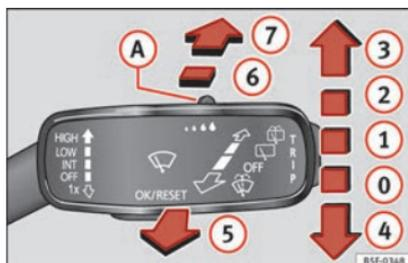

Fig. 39 Operating the windscreen wiper and rear wiper.
1	INT Windscreen wipers interval wipe. Using the control » Fig. 39 (A) adjust the interval (vehicles without rain sensor), or the sensitivity of the rain sensor.